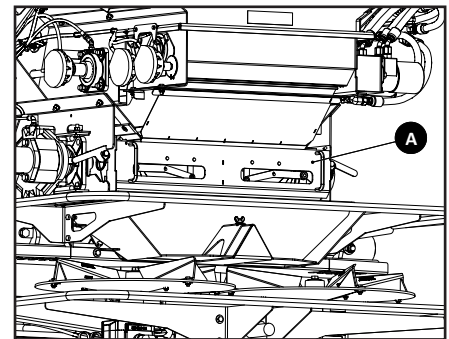

Figure 6
7. Figure 6 - Reinstall Vane Assembly (A) and lock in place. Make sure Lower Divider is centered over Material Divider. Contact New Leader Manufacturing if they cannot be aligned.